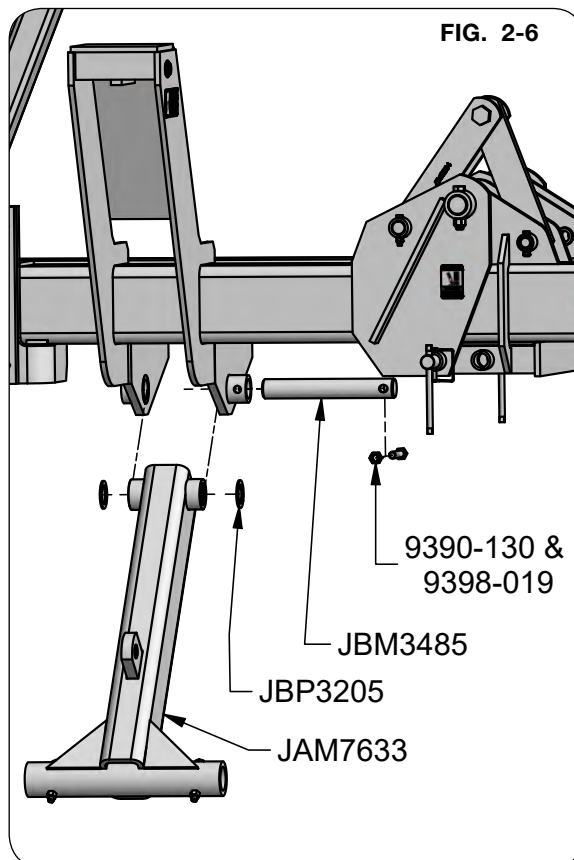

FIG. 2-6
2. Using a safe lifting device rated at a minimum of 150 lbs., position the axle weldment (JAM7633) on the main frame. Secure axle weldment with machinery bushings (JBP3205), 1 3/4" Dia. x 12 1/8" pin (JBM3485), 5/8"-11UNC x 3 1/2" capscrew (9390-130) and 5/8"-11UNC elastic locknut (9398-019). (FIG. 2-6)